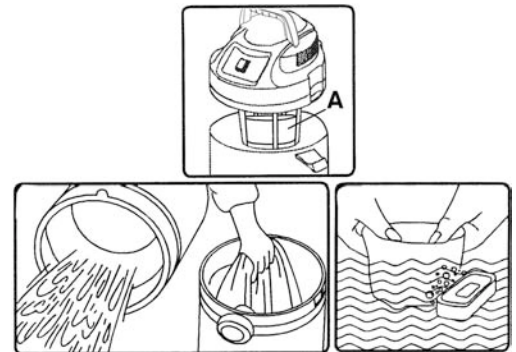

FIGURE 14
This section relates to wet vacuuming operations. This vacuum is fitted with an automatic suction shut-off float cup (A) Fig.14 which floats up when the liquid level increases in the tank, it then stops the suction action when the tank has reached its maximum capacity of liquid. Make sure the float cup is clean at all times.